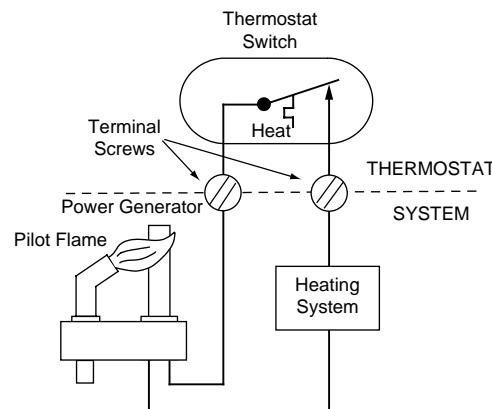

Figure 2. Typical Wiring Diagram
3. Pull wires through the opening in the thermostat base and connect wires beneath the terminal screws (see Fig. 2 & 3).